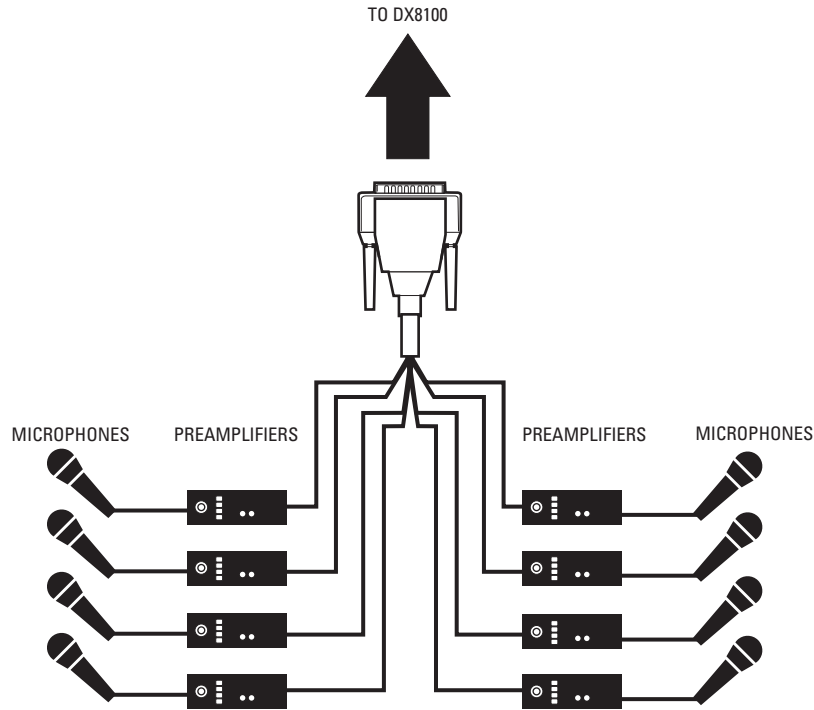

Figure 60. Sample 8-Audio Input Cable Configuration
2. Connect each of the 8 or 16 RCA-type audio connectors to a line-level (+4 dB) gain audio source. Refer to Figure 60.